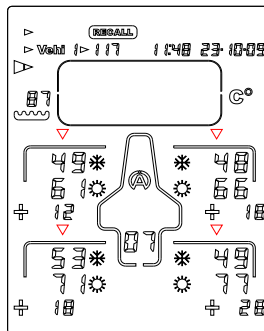

Abbildung 12
- 6) Press again the button  or  : the Tyrecontrol displays the third phase of data, that is to say the temperatures in the center of the tires, before  and after  race + the gaps (figure 12).